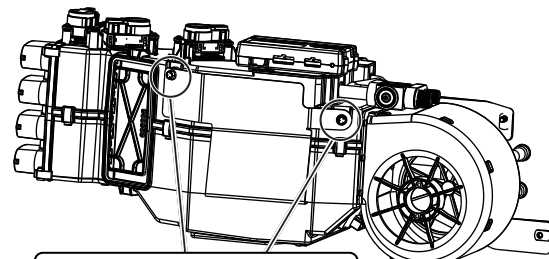

Figure 2
6. Remove the support board and install the evaporator dash bracket onto the evaporator module as shown in Figure 2, below, using (2) 1/4-20 x 1" serrated flange bolts.
7. Install the defrost plenum using (2) spring clips (See Photos 10 and 11, below).